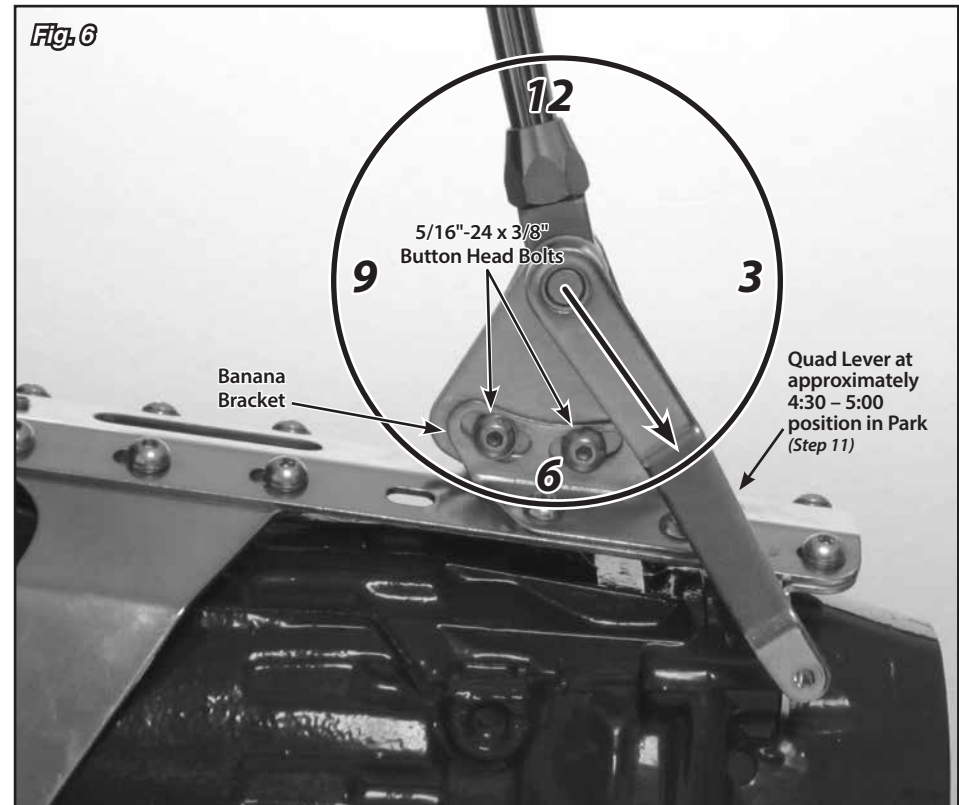

Fig. 6
**Step 10:** Make sure the two 5/16"-24 x 3/8" button head bolts that attach the left side banana bracket to the shifter assembly (in the curved, slotted holes) are tight. Before tightening the shifter assembly down to the main plate, move the Shifter through all of the gear positions. Make sure that the shifter lever and knob do not come in contact with the dash or the seat. The shifter assembly can be tilted forward or backward if needed by loosening the 5/16"-24 x 3/8" button head bolts in the curved, slotted holes in the left side banana bracket. **Fig. 6**
**Step 11:** Put the Shifter into the Park position and check the position of the quad lever. It will need to be pointing to about the 4:30 – 5:00 position. If it is not, loosen the set screw in the top of the quad lever with a 1/8" Allen wrench and slide the quad lever off of the shaft. Reposition it on the shaft at approximately the 4:30 – 5:00 position, and retighten the set screw. **Fig. 6**
Double check to make sure that the bolts connecting the **left** side banana bracket to the shifter assembly are tight. **Fig. 6**